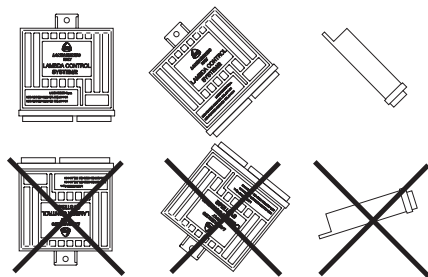

Fig. 3
3. INSTALLAZIONE COMPUTER LCS/2 (Fig. 3)